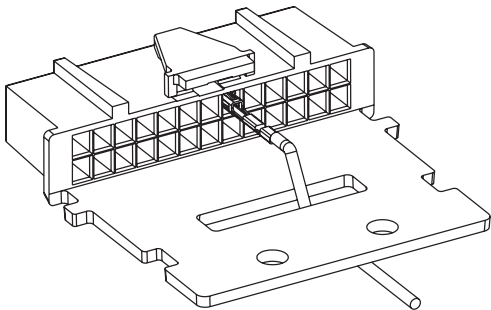

Figure 1a. Wire Strain Relief
6. Route wires through connector as shown in Figure 1a, or for applications with multiple accessories connected to the mobile radio, route wires as shown in Figure 1b and use the cable tie